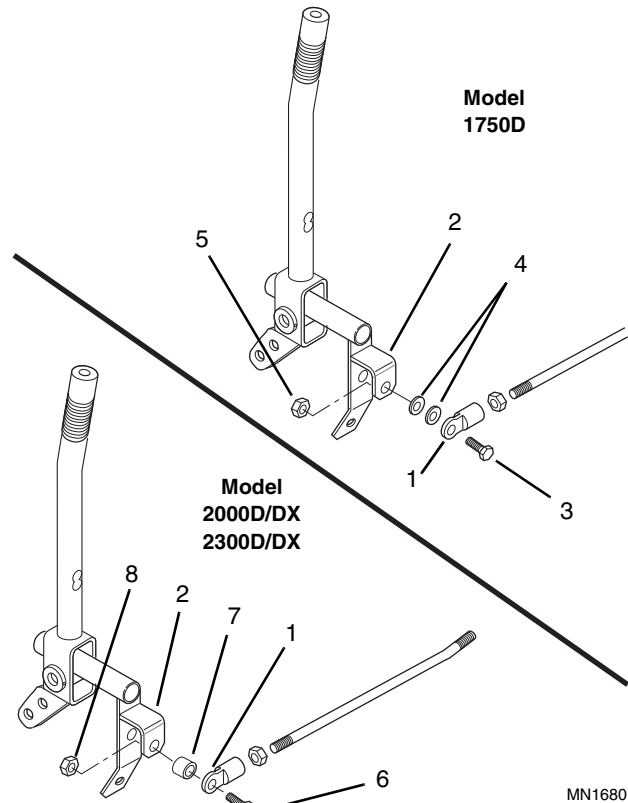

Figure 7-52 Right Side Link Installation
5. Connect right side link rod ball joint (Fig. 7-52, 1) to the right travel/steering lever 4-way pivot (2) by installing and securing the following:
Model 1750D Only - Capscrew (Fig. 7-52, 3), two flat washers (4), and locknut (5).
Model 2000D/DX and 2300D/DX Only - Capscrew (Fig. 7-52, 6), spacer (7), and locknut (8).